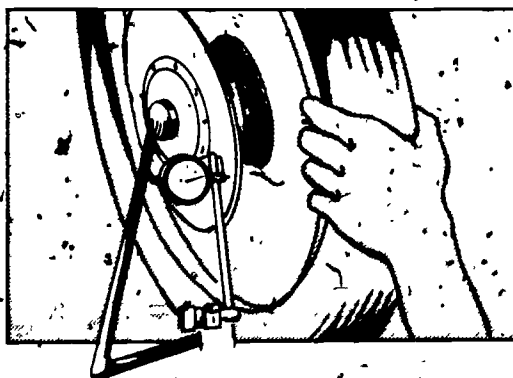

FIGURE 2
- D. Check runout of disc (Figure 2)